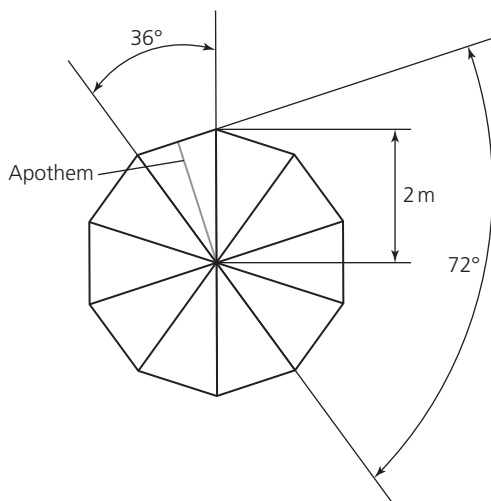

Figure A.14
Step 1: To calculate the area of the groundsheet, the apothem is required. Sketch out the decagon and add all known dimensions from your knowledge of the properties of a regular polygon (see Figure A.14).